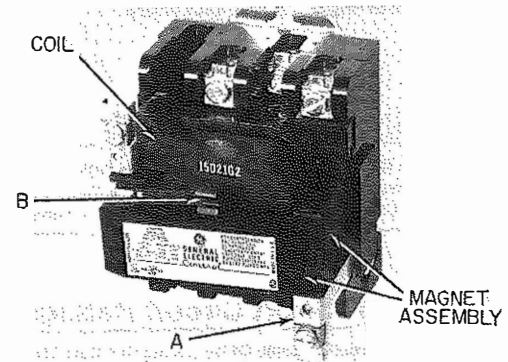

Figure 1. 30 ampere lighting contactor, CR360L.
1. Press against coil while pulling slightly on coil retainers (A—Fig.1), and move retainers away from coil.
2. Pull one end of spring clip (B—Fig. 1) forward and slide out of slot.
- 1. Press against coil while pulling slightly on coil retainer (A-Fig. 1), and move retainer away from coil.